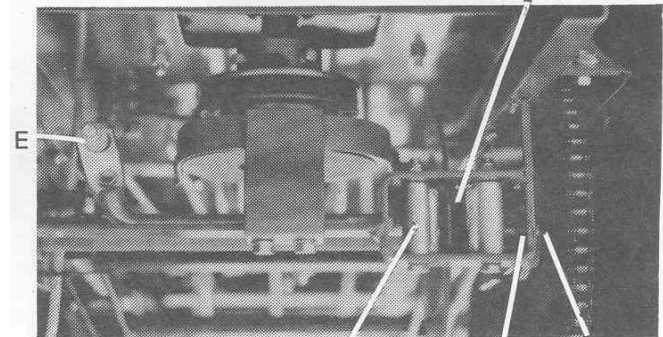

Fig. 15
- Clutch/brake pedal pivot; See Fig.15
1. Loosen locknut 'A' Fig.15
2. Adjust locknut 'E' Fig.15. Till brake arm 'D' pad comes into contact with disc;